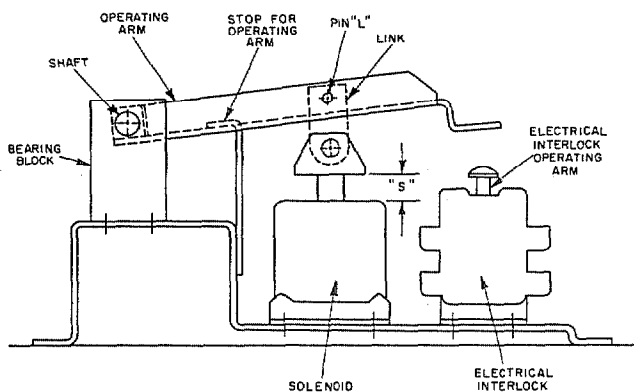
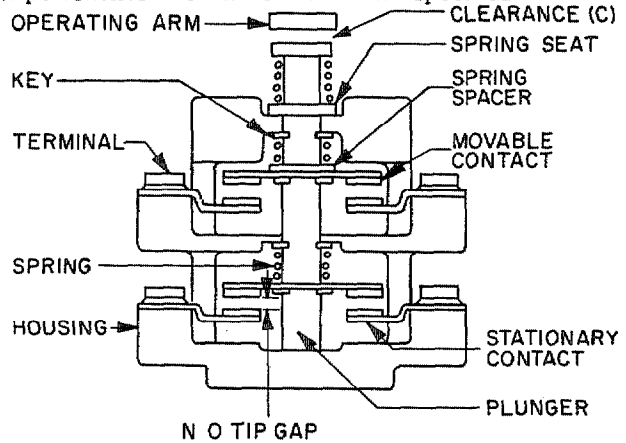
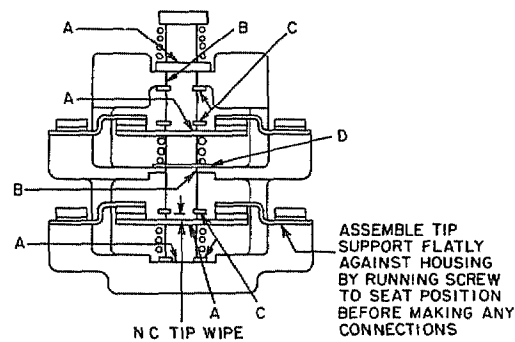

Fig. 1. Arrangement of solenoid and operating arm
Fig. 1A. Contact block with normally closed contacts in un-operated position
Fig. 1B. Contact block with normally open contacts in un-operated position
Grease or other foreign material must be removed from the solenoid mating faces which determine "S" solenoid gap of Fig. 1. The solenoid can then operate positively and be quiet in the closed position. Solenoid should be closed completely by hand by pushing on the link of Fig. 1 to be sure that the contactor operates without excessive friction or binding.
The stationary-magnet frame must be aligned with its moving plunger so that the plunger can seat completely with the mating surfaces mentioned above, laying flatly against each other without side thrust on the plunger. The solenoid must be assembled to the base so that the link is approximately centered in the window of the operating arm. The link should also be approximately parallel to the sides of the window in the operating arm. See Fig. 1. Any rolling action between these two surfaces or any appreciable side thrust on the solenoid plunger will cause the solenoid to be noisy after operation. This noise must be eliminated through proper alignment, as the solenoid will only get noisier from wearing unevenly.
**Contact Tip Gap and Wipe (See Fig. 1A)**
These contactors use an interlock block having internal parts which can be rearranged to give different contact arrangements. Should this be necessary the parts should be reassembled in accordance with Figs. 1A, 1B, or 1C.
Spring ends must not protrude into holes (A), slots (B), or keys (C), which serve as guides for operating arm. See Fig. 1A.
Interlock blocks with two normally closed circuits require a spring spacer (D) as shown in Fig. 1A to assure that the center spring is properly in place. Because of the circuit rearrangement feature, a spring spacer is supplied with all other two-circuit contact blocks, as shown in Fig. 1B and 1C.
See Fig. 1. The interlock should be positioned on its bracket so that with the contactor in its energized position, the interlock plunger, see Fig. 1B, should not bottom, and with the contactor in its de-energized position, there should be some clearance (C) between the plunger and the operating arm. See Fig. 1B.
1. *Operating arm*—The operating arm must be assembled to the shaft so that it is approximately perpendicular to the shaft. See Fig. 1.
2. *Stop for operating arm* (See Fig. 1)—Bend the stop for the operating arm of the contactor so that the solenoid stroke (S) is 0.530 in.  $\pm$ .010 in.
6. *Lever.* (See Fig. 2)—Adjust the lever supporting the NO contact tips so that the tips just touch with a solenoid gap "S" of 0.250 in. Tips at this solenoid gap can have 0.010 gap to 0.010 in. wipe as measured by eye. Hold the solenoid against 0.250-in. gage or fully closed by pushing directly on the solenoid plunger—not on the link or operating arm. (See Fig. 1.).
\* Solenoid gap measured between frame and core head, as shown in Fig. 1.